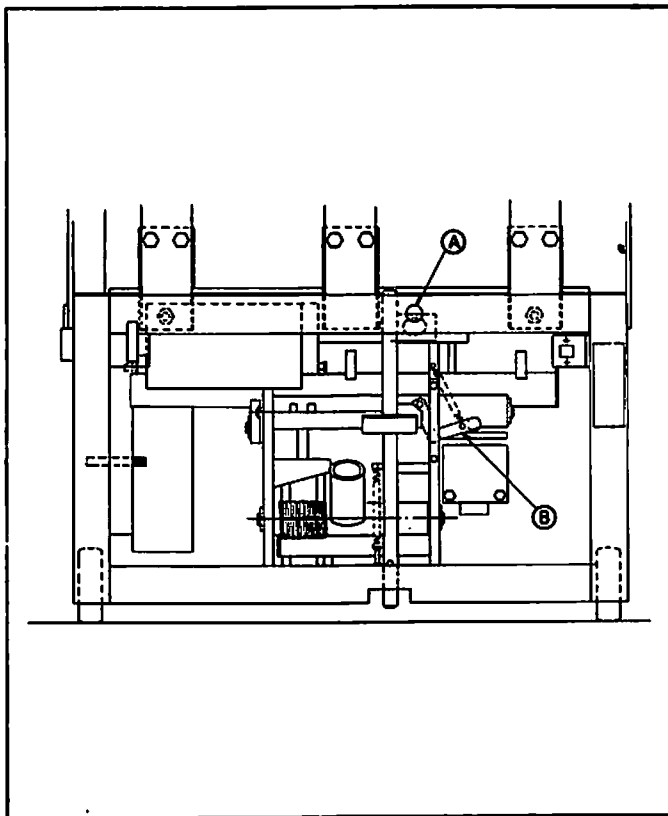

FIGURE 19
9. Interlock, Fig. 19-B, should trip the breaker before crank can be inserted into hole. Fig. 19-A.
Interlocking must be adjusted to insure tripping of the breaker before the racking-in handle can be inserted. Fig. 19-A. This is done by adjustment of the eccentric cam on the interlock. Fig. 19-B.